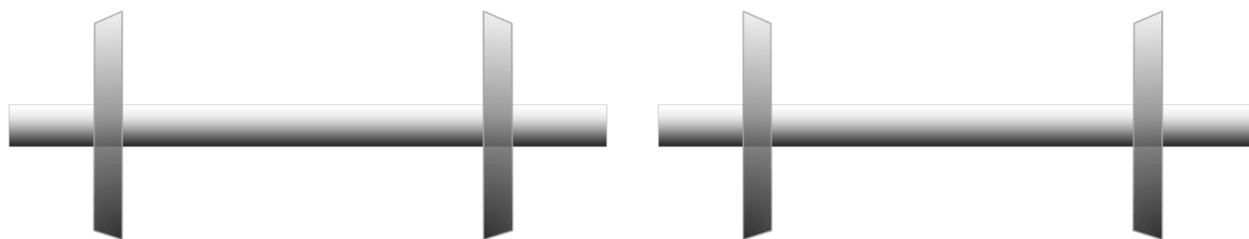

Figure 4: Two possible arrangements for a railroad wheelset with tapered wheels: tapers facing out (left) or tapers facing in (right).
14. Explain that this is why railroads use tapered conical wheels, but the questions remains of how to place the wheels on the axle: with the tapers facing in or out (Figure 4)? This leads to the demonstration in the main wheel-rail dynamics activity.